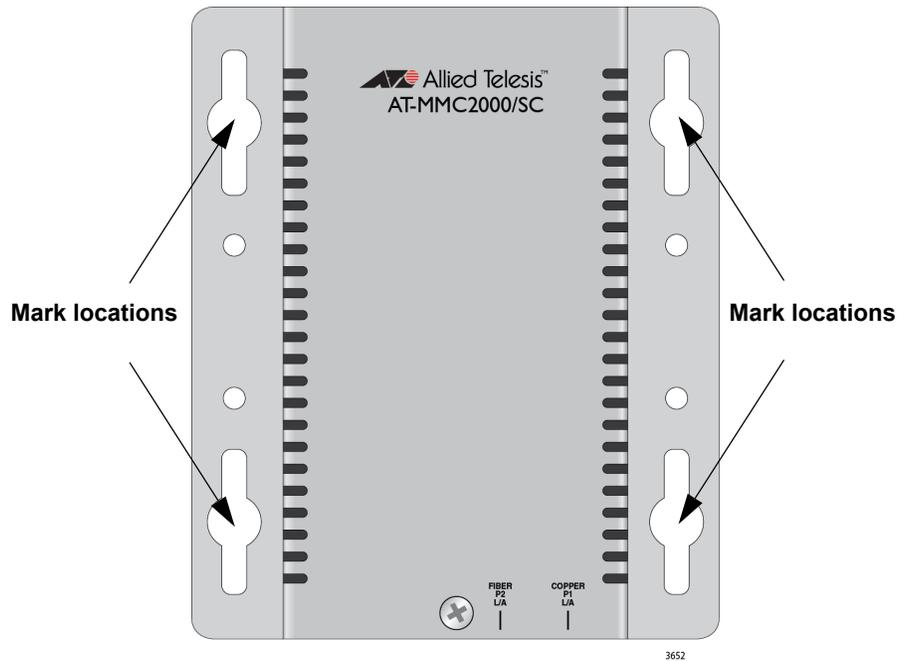

Figure 20. Marking the Screw Hole Locations
3. Use a pencil or pen to mark the wall with the locations of the four holes in the brackets. The media converter should be oriented as shown in Figure 20 on page 43.